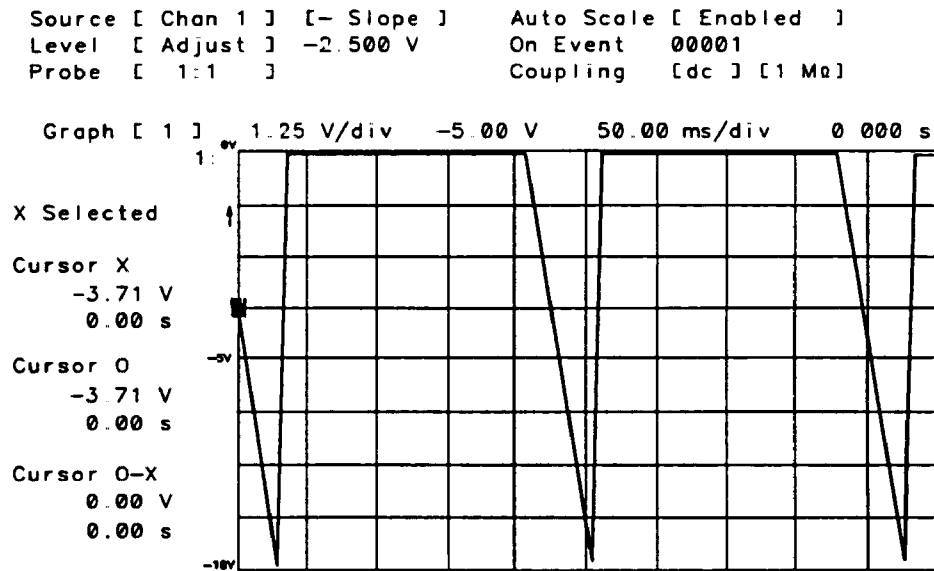

Figure 11-7. Input to Main/FM/VCO Sweep Switch
- a. Change the oscilloscope's amplitude scale to 1.25 V/div and monitor the A14J15 pin 14. The waveform should be a 0 V to -10 V sweep of 50 ms duration. See Figure 11-7.